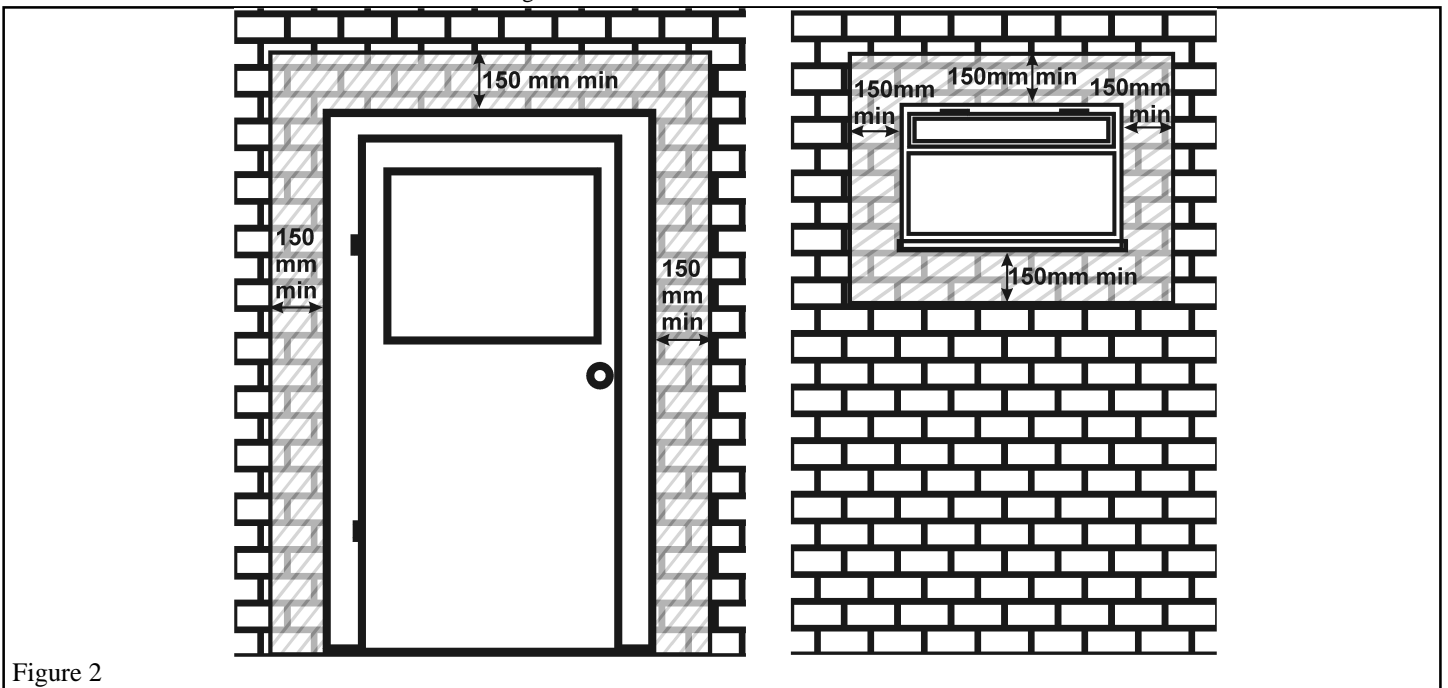

Figure 2
*In addition, the terminal should not be nearer than 150mm to an opening in the building fabric formed for the purpose of accommodating a built-in element such as a window frame or door frame. See figure 2.